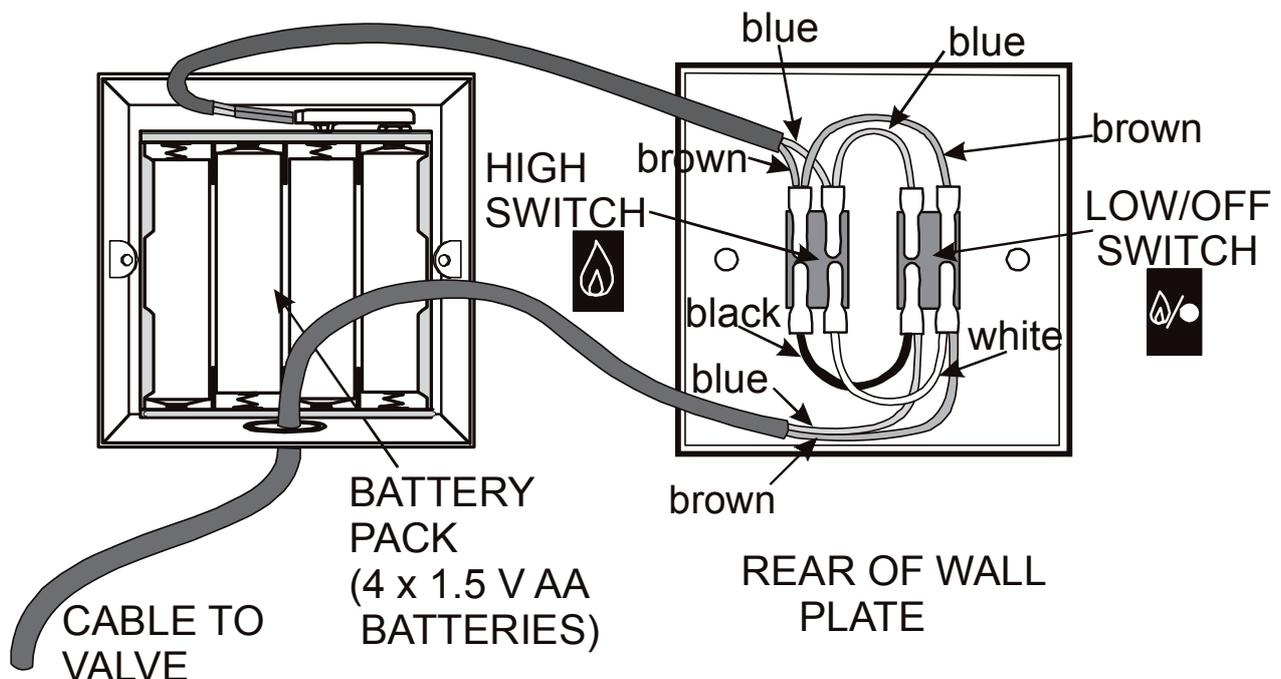

Figure 62
3. Make the connections on the wall switches as shown in **Figure 62**.